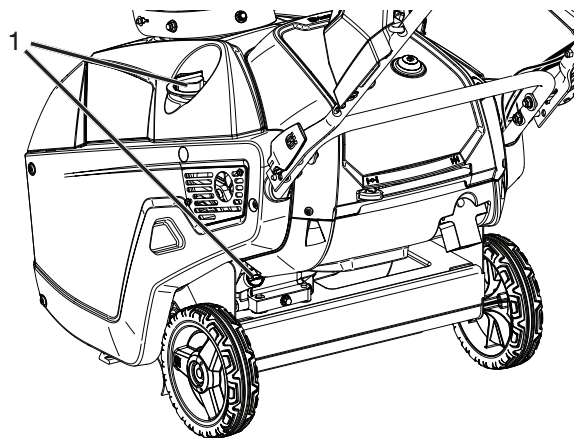

Figure 25
7. Clean around the oil filler cap/dipstick (Figure 25).